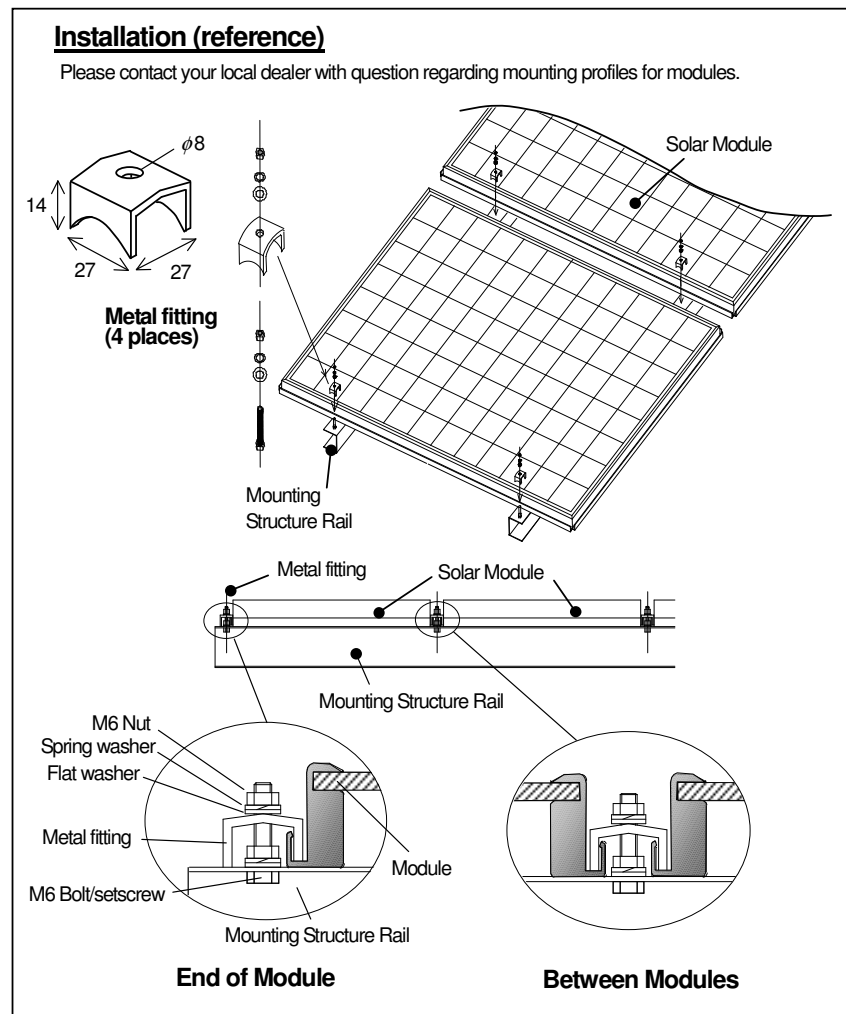
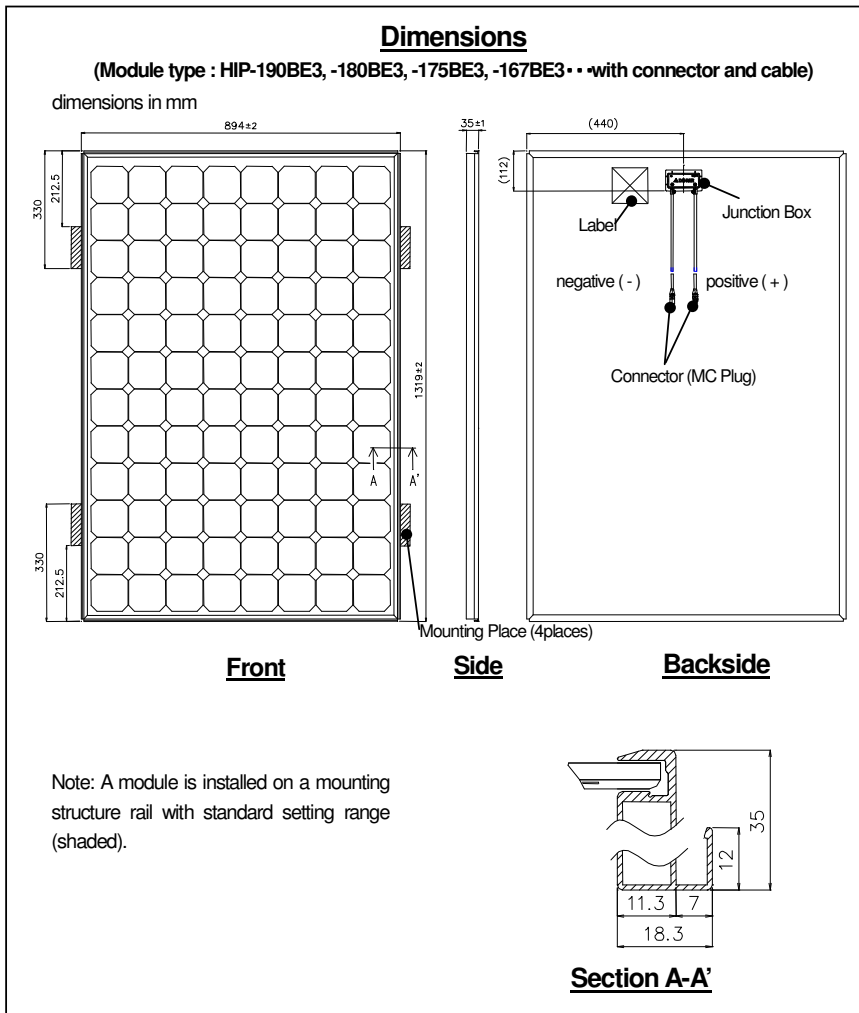

Figure 1: Installation
Figure2: Dimension
- We recommend installation method shown in Fig1. In some areas, local electrical and building codes may govern the installation and use of PV modules.
The modules should be mounted at the 4 or more points as shown in Fig1, Fig2. Then, a maximum loading of 2170N/m² (45PSF, in static state) on the module surface is possible.